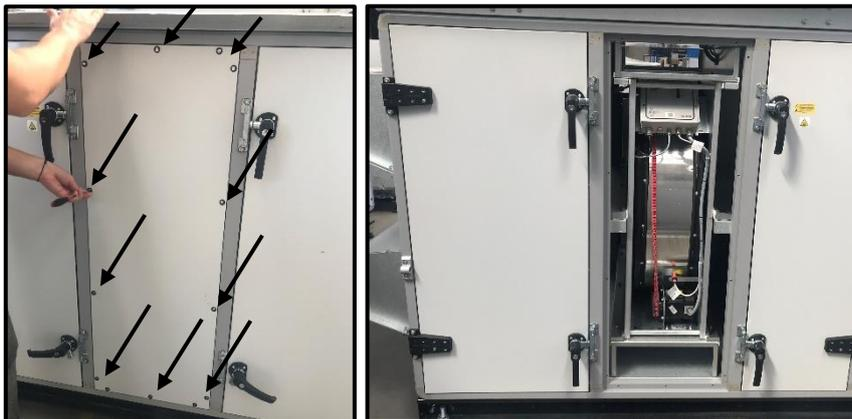

Fig. 28
1. Unscrew the screws of the rotary heat exchanger service cover and open (Fig. 28)